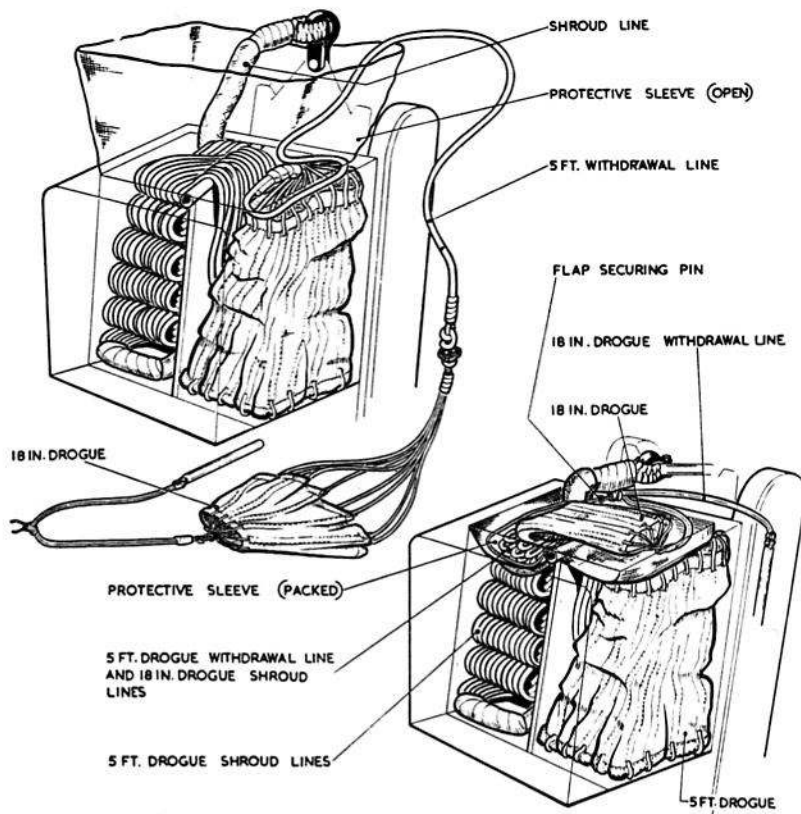

Fig. 22. Stowing the drogues
- (2) Insert the sleeve-protected shroud lines from the shackle into the rearmost outer corner of the right-hand compartment of the drogue container and fold the shroud lines as shown in the upper diagram of fig. 22.
- (3) Extend the remaining shroud lines and check that they are not entangled; fold the 5 ft. drogue into three double folds and pack into the left-hand compartment.
- (4) Cover the shroud lines and the 5 ft. drogue with the protective sleeve. The 5 ft. drogue
- (5) Fold the 5 ft. drogue withdrawal line and the 18 in. drogue shroud lines on top of the protective sleeve in the right-hand compartment and stow the 18 in. drogue as shown in the lower diagram of fig. 22.
- (6) Close the flaps in the following order:—port (1), starboard (2) rear (3) and front (4). The wire loop must pass through each eyelet in turn and the 18 in. drogue withdrawal line must emerge from the rearmost corner nearest the drogue gun.
- (7) Insert the flap securing pin attached to the 18 in. drogue withdrawal line through the wire